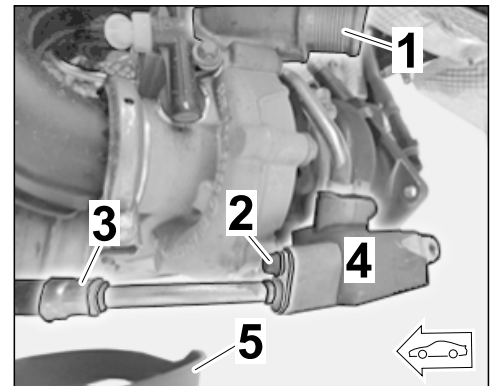

Figure 6
- 1.7.1 Remove charge-air hose from turbocharger (cyl. 1–3 ⇒ *Figure 6 -1-/cyl. 4–6*).
- 1.7.5 Remove Torx screw (M6 x 12) on oil return line/turbocharger oil tank flange (cyl. 1–3 ⇒ *Figure 6 -4-*/cyl. 4–6).